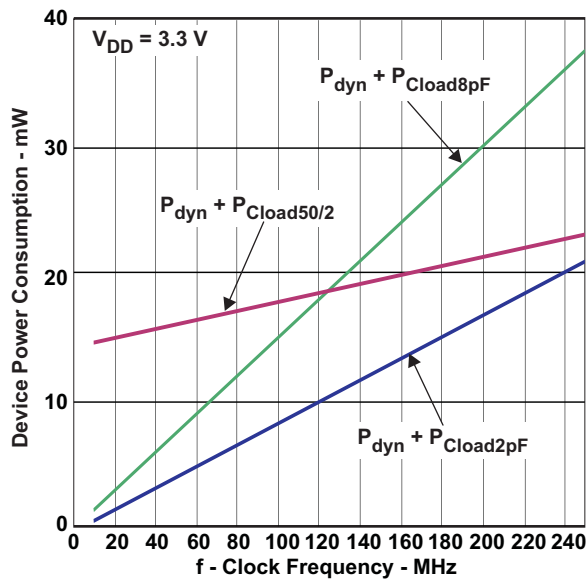
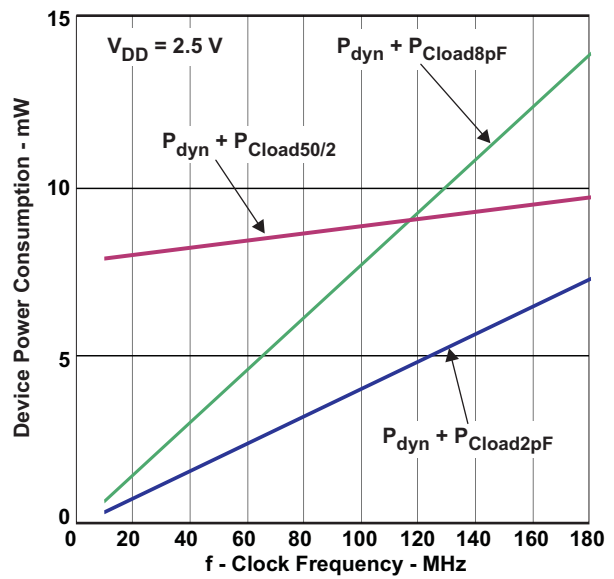

Figure 8. Device Power Consumption vs Clock Frequency (Load 50Ω into $V_{DD}/2$. 2pF, 8pF; Per Output)
Figure 9. Device Power Consumption vs Clock Frequency (Load 50Ω into $V_{DD}/2$. 2pF, 8pF; Per Output)
(2) For dynamic I_{DD} over frequency see Figure 8 and Figure 9.
(3) This is the formula for the power dissipation calculation (see Figure 8 and the Power Consideration section).
The output load can be capacitive only or capacitive and resistive. The following formula and the power graphs in Figure 8 and Figure 9 can be used to obtain the power consumption of the device:
$$P_{dyn} + P_{Cload} = \text{see Figure 8 and Figure 9}$$